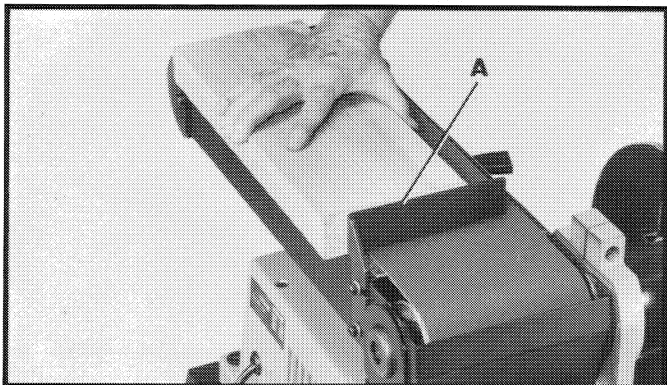
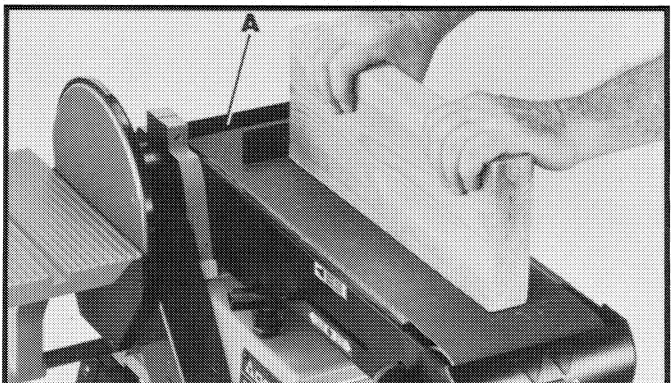

Fig. 47
Fig. 48
When surfacing (see Fig. 47), or edge sanding (see Fig. 48), the sanding arm is in the horizontal position and the backstop (A) Fig. 47 and Fig. 48, must always be used to prevent the workpiece from being carried along the belt. Always hold the workpiece firmly, keeping your fingers away from the sanding belt. Always keep the end of the workpiece against the backstop and move the workpiece evenly across the sanding belt. Apply only enough pressure to allow the sanding belt to remove material. Use extra caution when sanding very thin pieces.